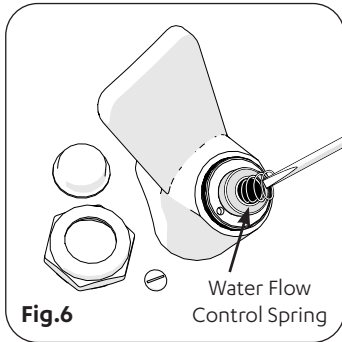

Fig.6 Water Flow Control Spring
3. Using a small, flat screwdriver, remove the Water Flow Control Spring (Fig.6). Inside the Spring Cavity is the Cartridge Assembly Fixing Nut.